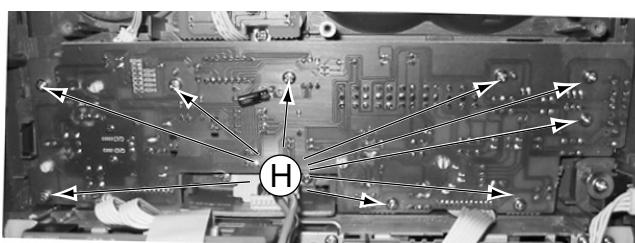

Figure 9
- 3) Loosen 9 screws ' H' to remove the VFD Board figure 9.